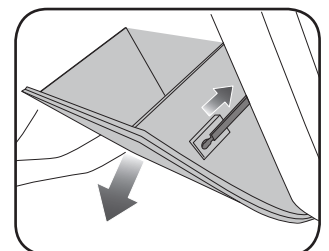

Fig. 1.10
10. Open the glove compartment and push up on the retaining clips securing it. Slide the control arm off the side of the glove compartment to allow it to open completely. (Fig. 1.10)